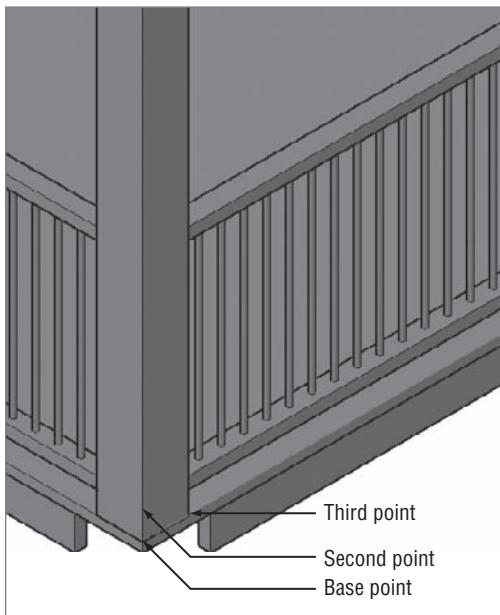

FIGURE 16.76 Defining the destination plane within the 3D model
- 9. Without exiting the 3DALIGN command, zoom into the left deck column on the east side of your cabin as shown in Figure 16.76.
- 10. To define the destination plane, select the base, second, and third points as shown in Figure 16.76.